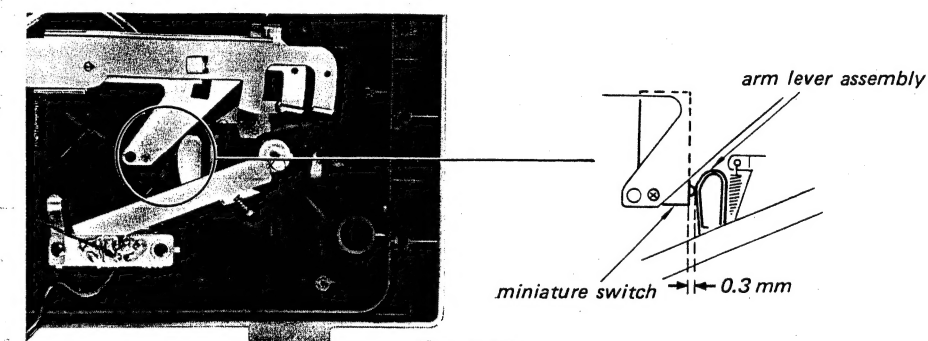

Fig. 6-8A
2. Adjust the adjustment screw so that the positions of the miniature switch and the arm lever assembly are as shown in Fig. 6-8A.